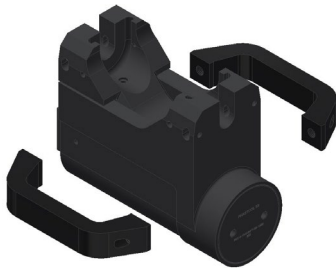

Figure 21
1. Locate supplied handle (1 of 2) onto the tool (Figure 21).